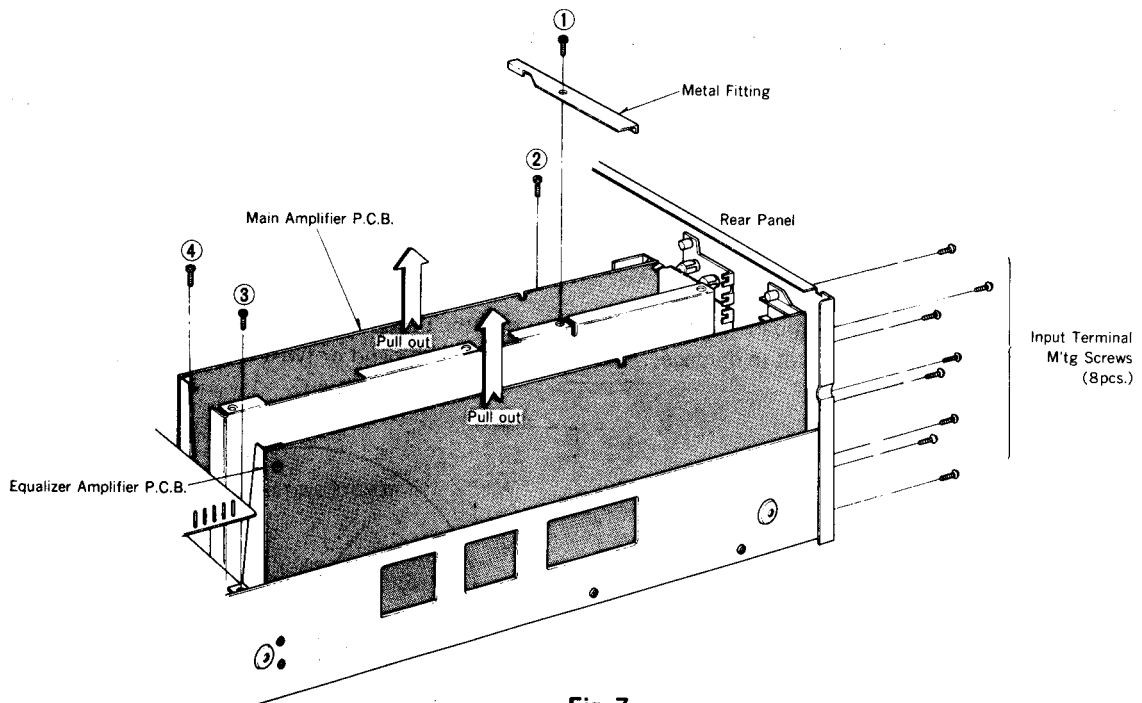

Fig. 7
1. Remove the setscrew (① in Fig. 7) used to secure the metal fitting.
2. Remove the 8 setscrews used to secure the tuner, aux, tape deck 1 and 2 connection terminal of rear panel (Fig. 7)
4. Remove the setscrew (③ in Fig. 7) used to secure the chassis.
6. The main amplifier P.C.B. can be detached by removing 2 setscrews (②, ④ in Fig. 7) used to secure the chassis.